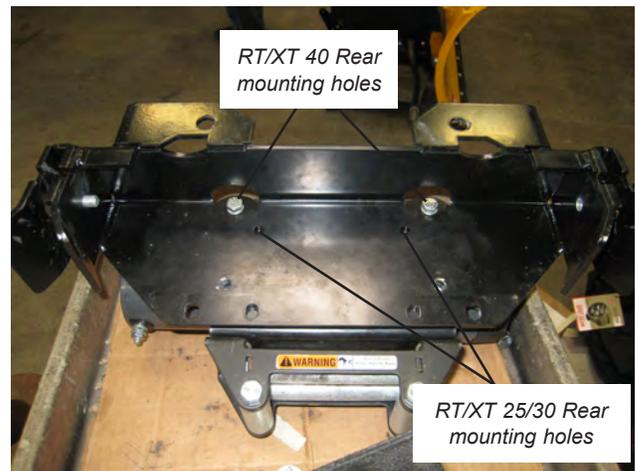

Figure 5 Bottom view of plow mount
5. Using the rear winch mounting holes, mount the winch to the plow mount (A1). Use fasteners supplied with the winch kit. Do not tighten at this time. See Figure 5.